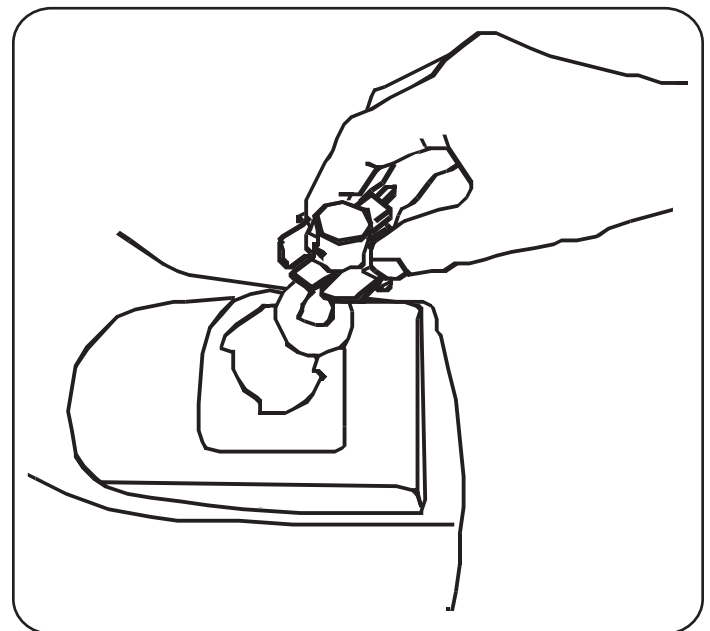

Figure 21
3. Rotate the socket assembly approximately a ¼-turn to align the socket tab with the reflector housing notch; then withdraw the bulb and socket assembly from the reflector housing. See Figure 21.
5. Align a locking post of the bulb base with the notch in the socket, then push the bulb inward and turn clockwise to lock. See Figure 21.